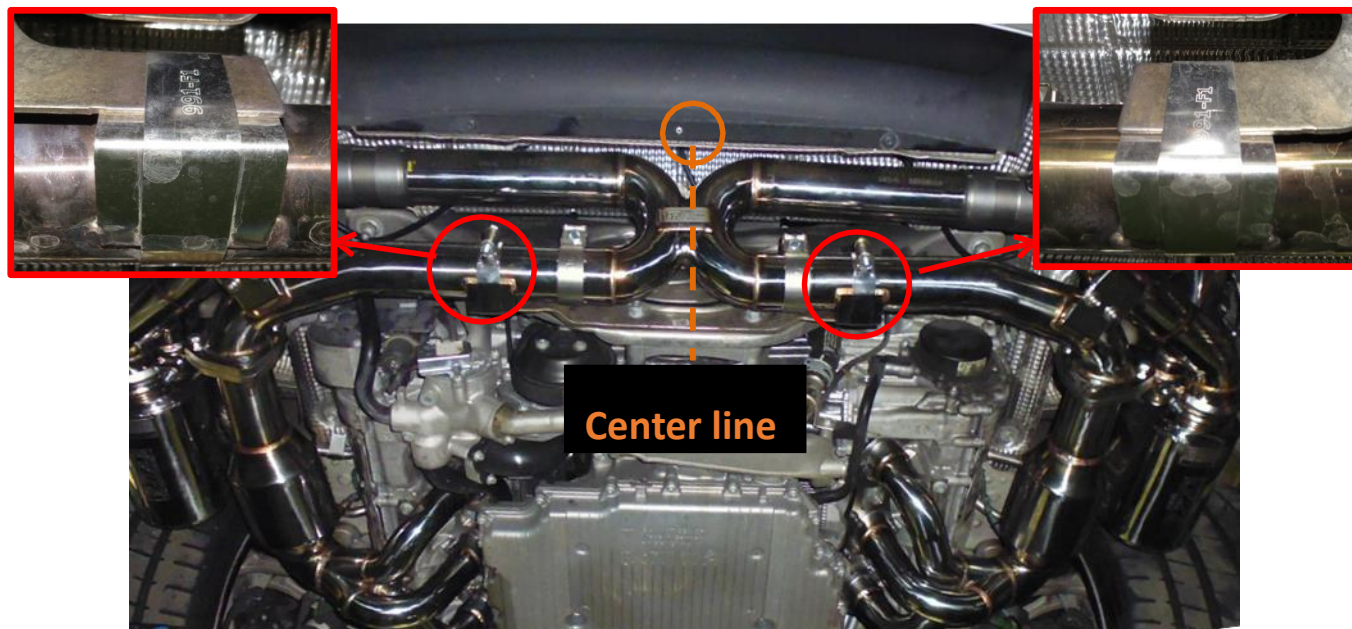

Fig 2-7
10. Lock the X pipe fixing clamps with 13mm hex wrench. (Fig2-7)